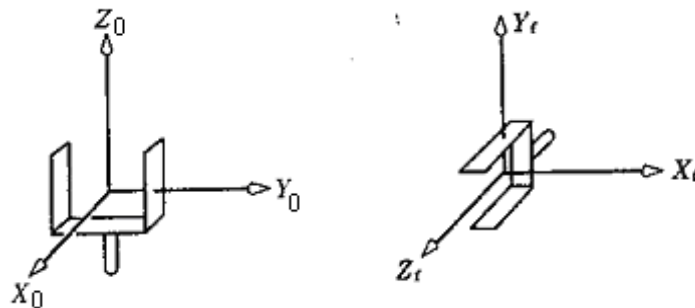

Figure 6
6. Find the trajectory to transform the end effectors orientation from rest at the initial orientation shown in figure 6 to rest at time 1 second. Solve the problem by using single axis rotation method. [16]